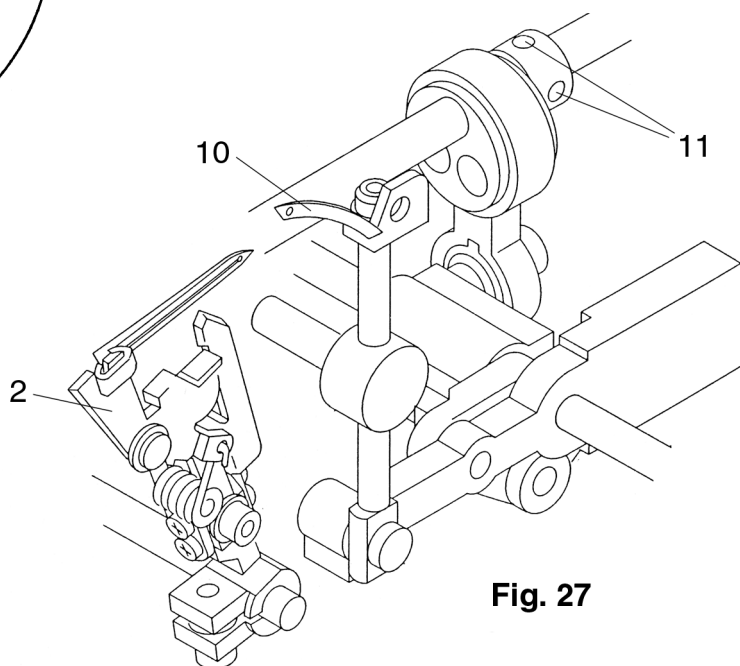

Fig. 27
- Loosen the screws 11 on the drive eccentric 4 (fig. 27).
- Tighten the screws 11 of the drive eccentric (fig. 27).